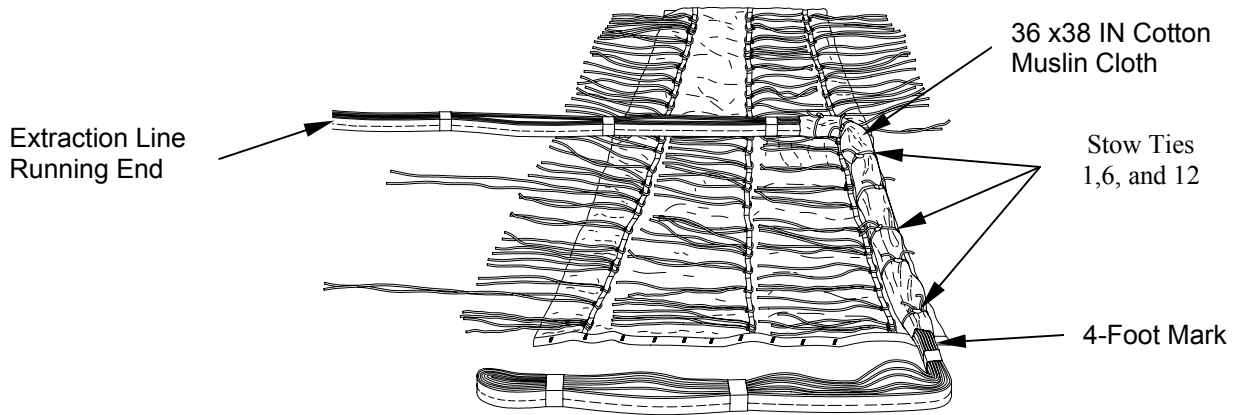

Figure 5. Extraction Line Secured to Bottom Panel.
- a. Wrap the extraction line with one piece of 36 x 16-inch cotton muslin cloth at a point immediately above the 4-foot mark on the extraction line. Ensure cotton muslin runs the entire length of the panel (figure 5).
- b. Secure wrapped extraction line in 5 places with two turns single 36-inch lengths of type I, 1/4-inch cotton webbing. Secure with a surgeon's knot and locking knot (figure 5).
- c. Tie extraction line on right side of bottom panel with one turn 24-inch length of type I, 1/4-inch cotton webbing with ties on stow loops 1, 6, and 12 on the right side. Secure with a surgeon's knot and locking knot (figure 5).